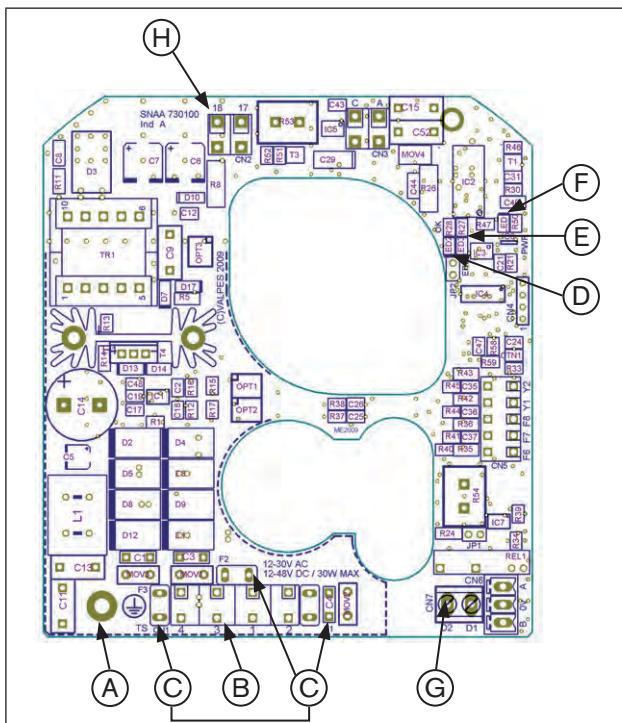
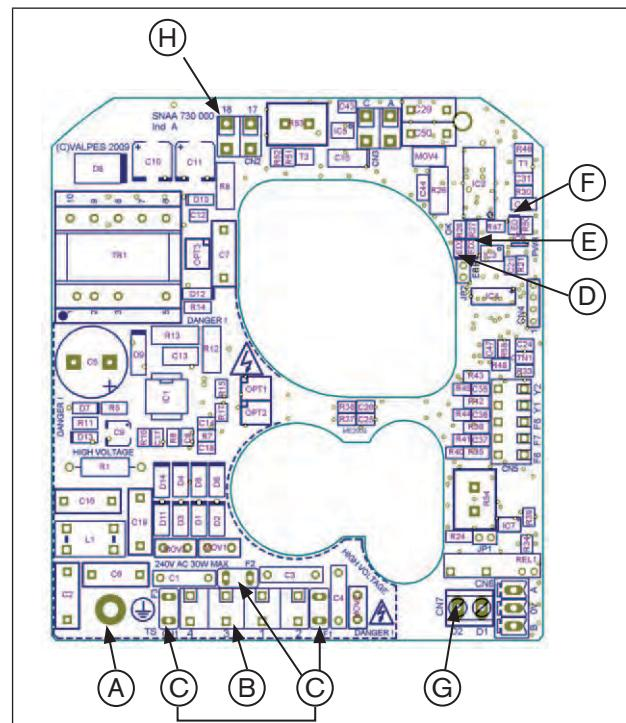
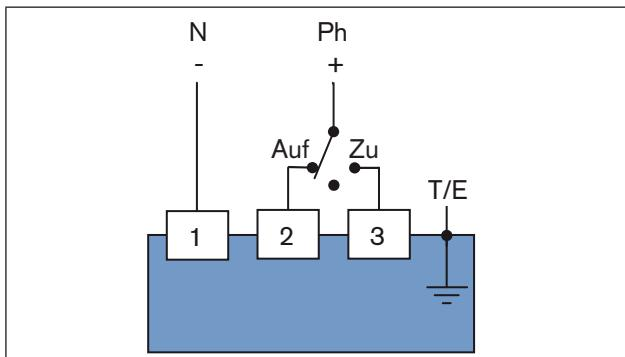
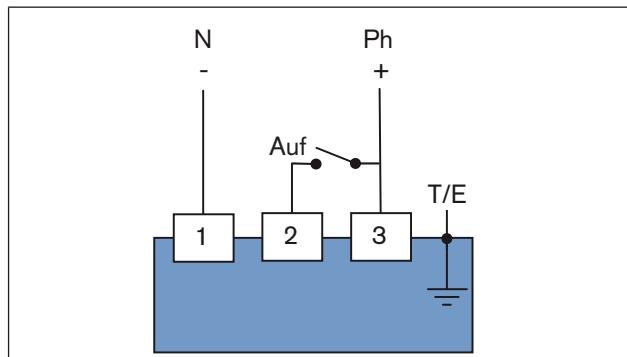

Figure 15: Power supply circuit board 15-30 V 50/60 Hz (12-48 V DC)
Figure 16: Power supply circuit board 100-240 V 50/60 Hz (100-350 V DC)
Figure 17: Three points mode
Figure 18: Open / Closed mode / Emergency current mode
→ To do this, loosen earthing screw and attach eyelet of the earthing cable with the earthing screw (see "Figure 15" and "Figure 16").
- Connect cable according to the required control type (see "Figure 17" and "Figure 18") to the terminal strip Pos. B of the power supply card (see "Figure 15" and "Figure 16").
Operating principle for Open / Closed mode (see "Figure 18") :